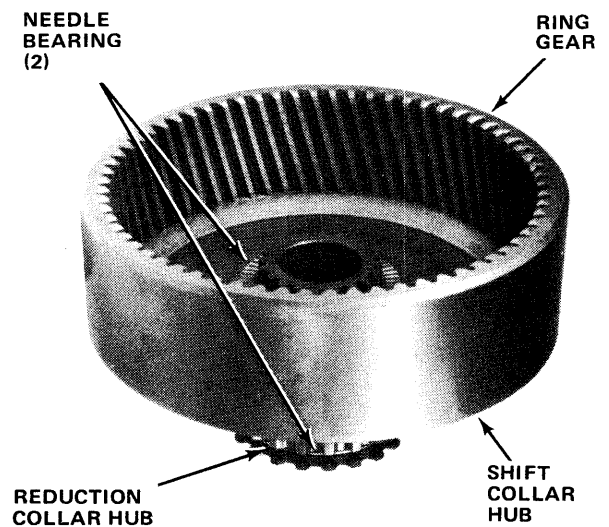

Fig. 8-39 Ring Gear Installed on Reduction Collar Hub
(25) Install ring gear assembly on top of reduction collar hub with open end of ring gear facing upward (fig. 8-39).